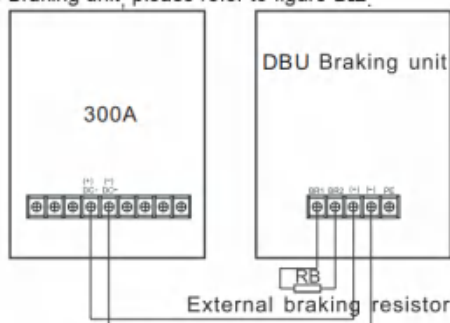

Figure B-2 Connection of braking unit
B.2.2.2. Connection of Braking unit, please refer to figure B.2.